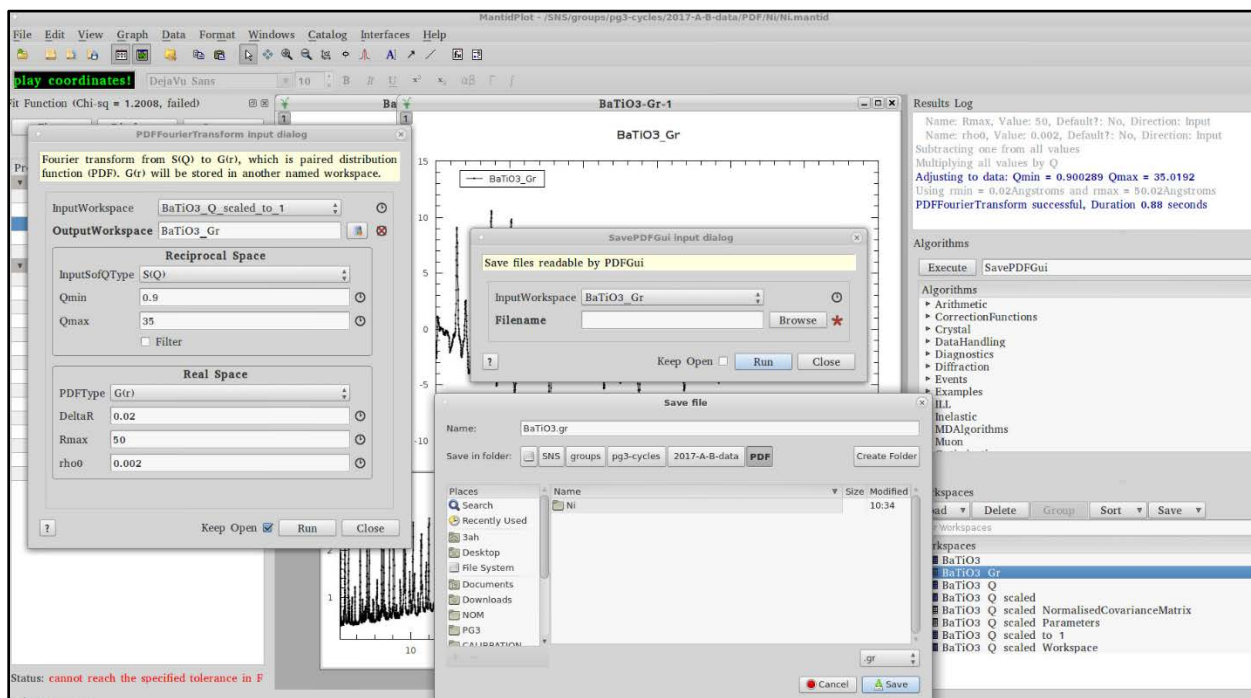

Figure 11. SavePDFGui dialog box.
9. Execute the “SavePDFGui” algorithm (Figure 11), which will generate a \*.gr file formatted for the PDFGui program with the relevant header for neutron data.